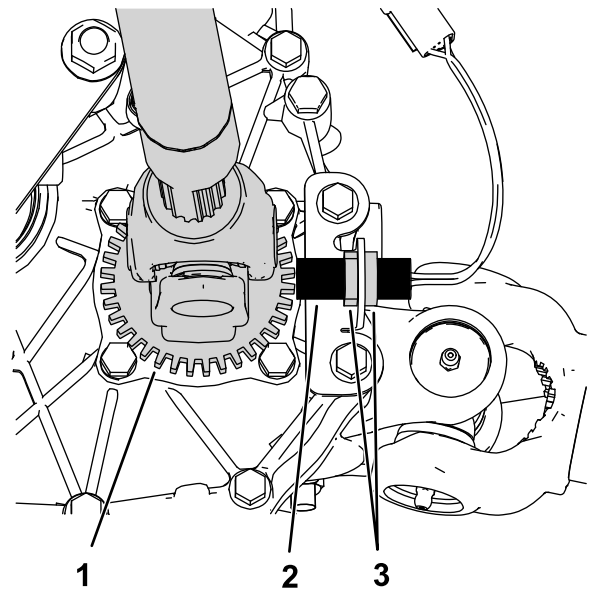

Figure 4
7. Install the sensor to the sensor bracket (Figure 4).
8. Adjust the clearance between the sensor ring and the sensor to 1 mm (.04 inch) using the adjustment nuts (Figure 4).